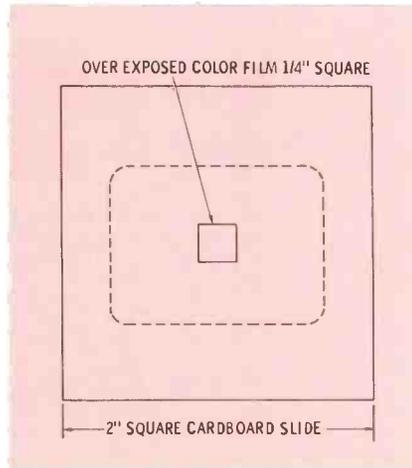

Fig. 14 Illustration of "window" test slide.
3. Place "window slide" (Fig. 14) in scanning position.